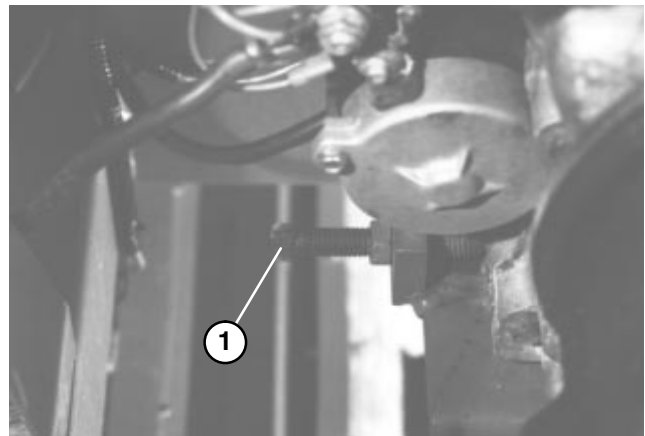

Figure 36
B. Turn belt adjusting (Fig. 36) bolt until desired belt tension is obtained. Retighten engine mounting bolts. Reorient engine to make sure engine is parallel with frame. Retighten engine mounting bolts.